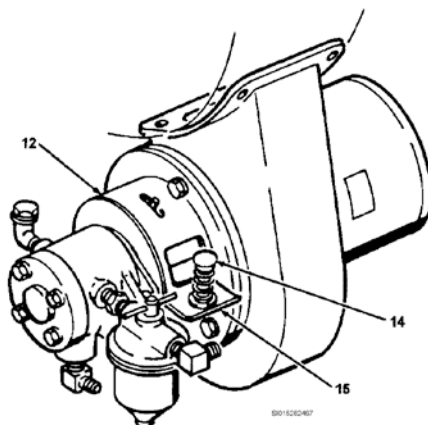

Figure 2-51. Adjusting exhaust gases.
Right after start-up, look for exhaust gases emitting from the exhaust stack. These gases should be transparent and smokeless. If this is not the case, the fuel/air mixture is not set properly. Varying the air band position will adjust your fuel/air mixture—thus preventing smoke. To correct this, slowly *open* the air band (fig. 2-51, callout 12) on the blower assembly until the exhaust gases are transparent and smokeless. The boiler is now operating on automatic. Turn off the load limit switch. The boiler will shut down.
**NOTE:** Normal vibrations of the boiler during operation may change the air band adjustment. Because of this, you should frequently check the presence of smoke. If smoke is present due to air band movement from vibrations after normal operations have begun, you should adjust the air band. To do this, press the rivet (fig. 2-51, callout 14) on the air band (fig. 2-51, callout 12). Then shift the air band adjustment tab (fig. 2-51, callout 15) downward while observing smoke. Next, open the air band (fig. 2-51, callout 12) until smoke is no longer visible.